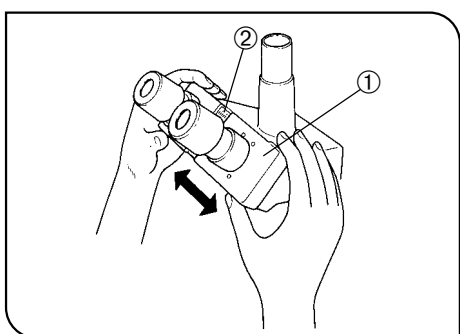

Fig. 24
1. While looking through the eyepieces, slide the knurled sliding grips ① until the left and right fields of view fully coincide. (Fig. 24)
⊙ The knurled sliding grips ① are coupled with the interpupillary distance scale ②. Make a note of the interpupillary distance for easy readjustment in the next observation. (Fig. 24)